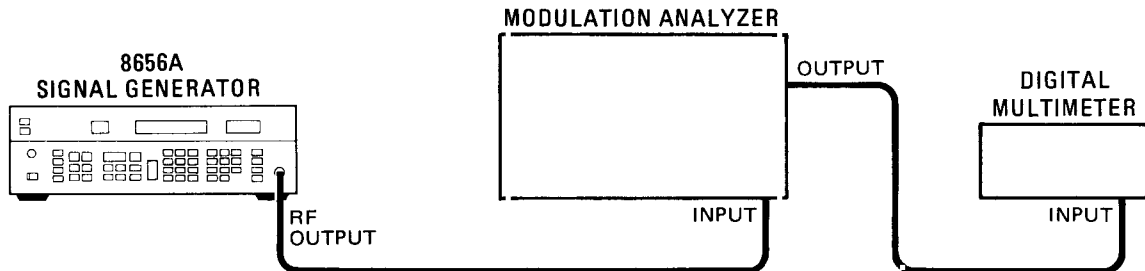

Figure 4-3. Residual AM Test Setup
8. Connect the RF OUTPUT of the Signal Generator to the input of the modulation analyzer and the output of the modulation analyzer to the input of the digital multimeter as shown in Figure 4-3.